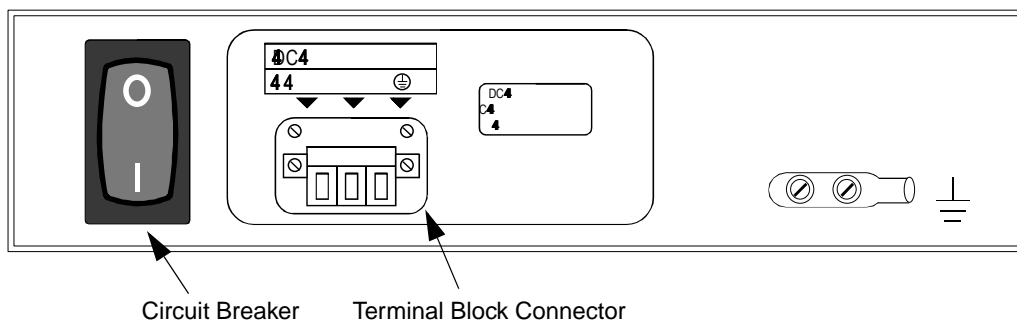

Figure 4-6. Power Switch, Terminal Block Connector, and Grounding Nuts
1. Toggle the SA 100 circuit breaker off. See Figure 4-6.
3. Loosen each screw in the Terminal Block Connector. See Figure 4-6.